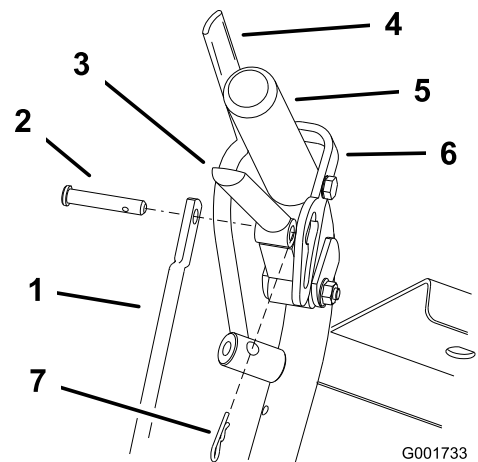

Figure 22
- Remove the hairpin cotter pins and clevis pins from the drive levers and neutral locks (Figure 22).
6. Install hairpin cotter between drive levers and neutral locks and into clevis pins (Figure 22).